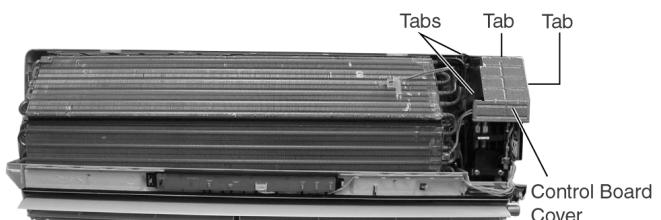

Fig. 2
- Remove the Control Board Cover by releasing the 2 tabs at left, 1 tab on top and 1 tab at right side of the Control Board Cover. (Fig. 2)